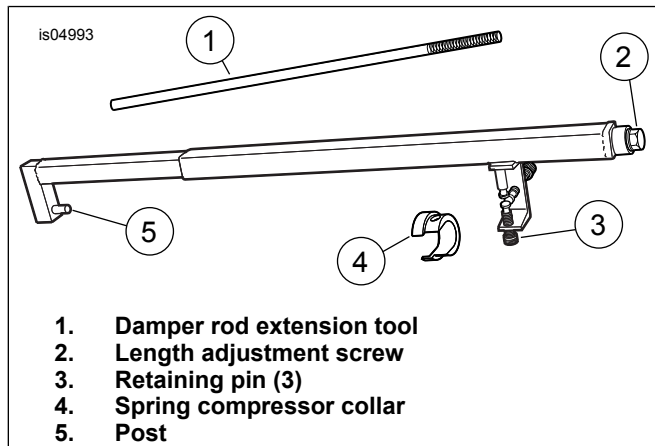
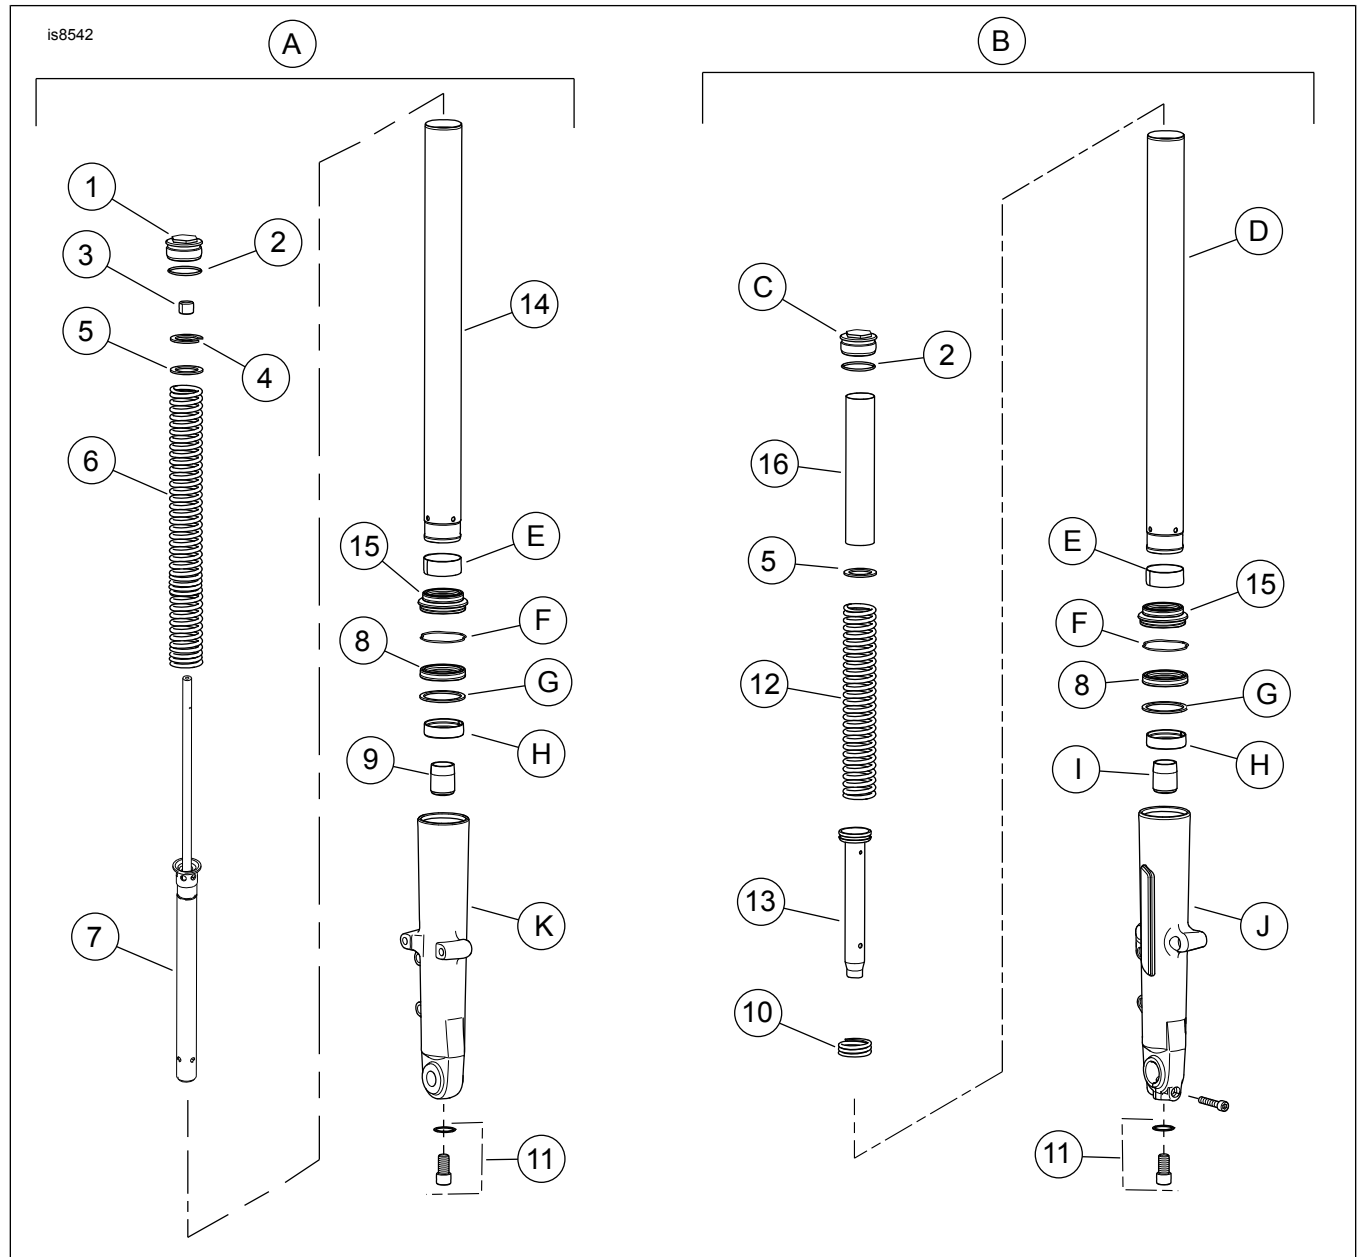

Figure 4. Fork Spring Compressing Tool (HD-45966)
Figure 7. Service Parts: XL Standard Cartridge Front Fork Kit
Refer to Figure 7 for the following procedure.
20. See Figure 4. Install fork spring compressing tool:
- a. Clamp tool in vise in a vertical position with length adjustment screw (2) upward.
- b. Place hole at bottom of fork slider over post (5) at bottom end of tool.
- c. Place flat washer (Item 5, Figure 7), over the damper rod extension tool and on top of spring. Place spring seat (Item 4, Figure 7), concave side up, on top of the flat washer. With the smaller OD upward, place spring compressor collar (item 4, Figure 4) over spring seat and flat washer.
- d. Adjust tool as necessary until three retaining pins (3) engage blind holes in spring compressor collar (4). Turn length adjustment screw counterclockwise to lengthen and clockwise to shorten.
23. See Figure 7. Install **new** jamnut (3) with non-threaded end over the damper rod first. Thread onto damper rod until it bottoms out on the shoulder.
26. Install **new** O-ring (2) onto **new** fork bolt (1). Thread fork bolt onto threaded end of damper rod until it bottoms. Turn jamnut counterclockwise until it makes firm contact with the fork bolt. Tighten jamnut to 20 ± 2.5 N·m (15 ± 2 ft-lbs).